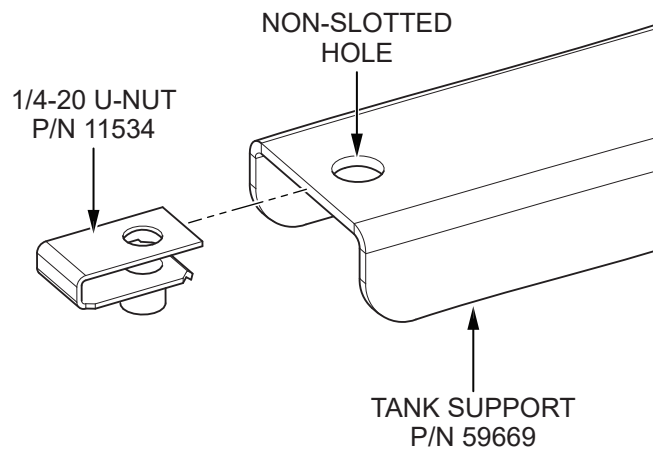

Figure 12. Fasten U-Nut To Tank Support
2. Fasten a **clip-on 1/4-20 U-nut (P/N 11534)** to the non-slotted hole at the end of a **tank support (P/N 59669)** as shown in Figure 12.